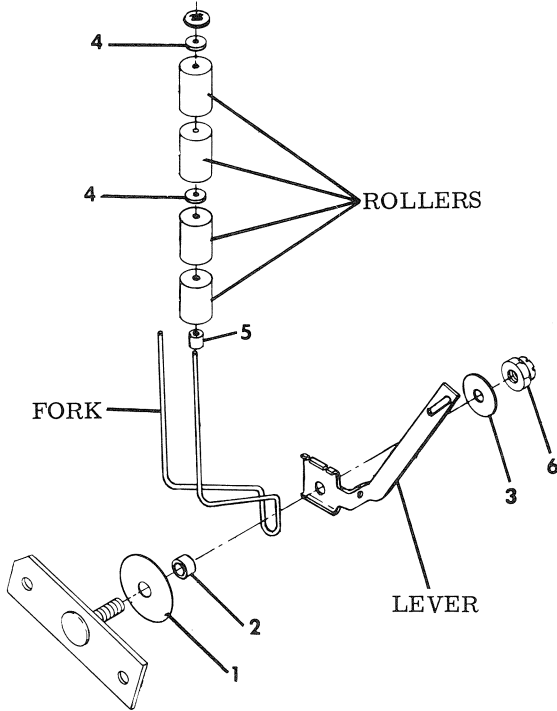

Figure 3-22. DRIVE BELT SHIFT FORK ASSEMBLY
9. Drive Belt Shift Fork Assembly (Figure 3-22)
a. Lubricate washer (1), spacer (2), working surfaces of lever, and washer (3) with Anderol L-793 grease. Lubricate part of fork that holds washers (4), rollers, and spacers (5) with L-793.
c. Tighten nut (6) until fork and lever rotate freely with no perceptible end play.